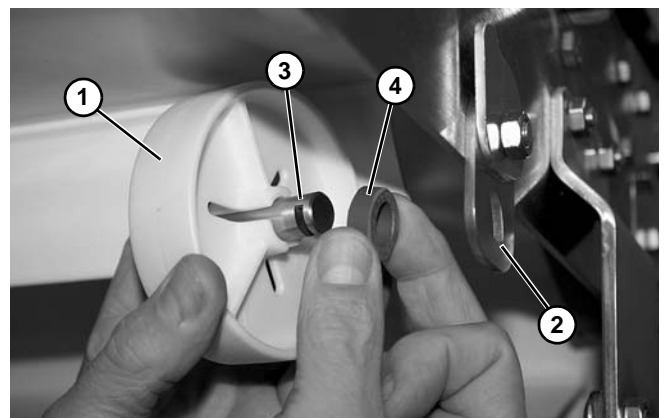

Figure 32
5. Install each puck (Figure 32, item 1) onto return bracket (Figure 32, item 2) with stub shaft (Figure 32, item 3) and spacer (Figure 32, item 4).